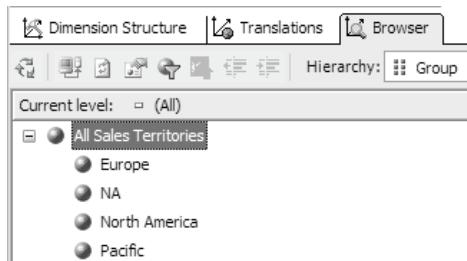

Figure 4.9 By default, UDM sorts attribute members by the attribute name in an ascending order.
3. Process and browse the dimension. Observe that both the Sales Territory multilevel hierarchy and the three attribute hierarchies have their top member displayed as All Sales Territories (see Figure 4.9).
By default, UDM orders the attribute members by the attribute name. That's because the attribute OrderBy property binding is set by default to *Name*. To see the effect of the default order settings, process the Sales Territory dimension and flip to the Browser tab. In the Hierarchy dropdown, select the Group attribute hierarchy (Figure 4.9). The members of the Group attribute hierarchy are sorted in ascending order by their name because the NameColumn of the Group attribute is set to SalesTerritoryRegion. If it is the attribute key that we want to sort on (SalesTerritoryKey), we can change the OrderBy property of the Group attribute to Key.